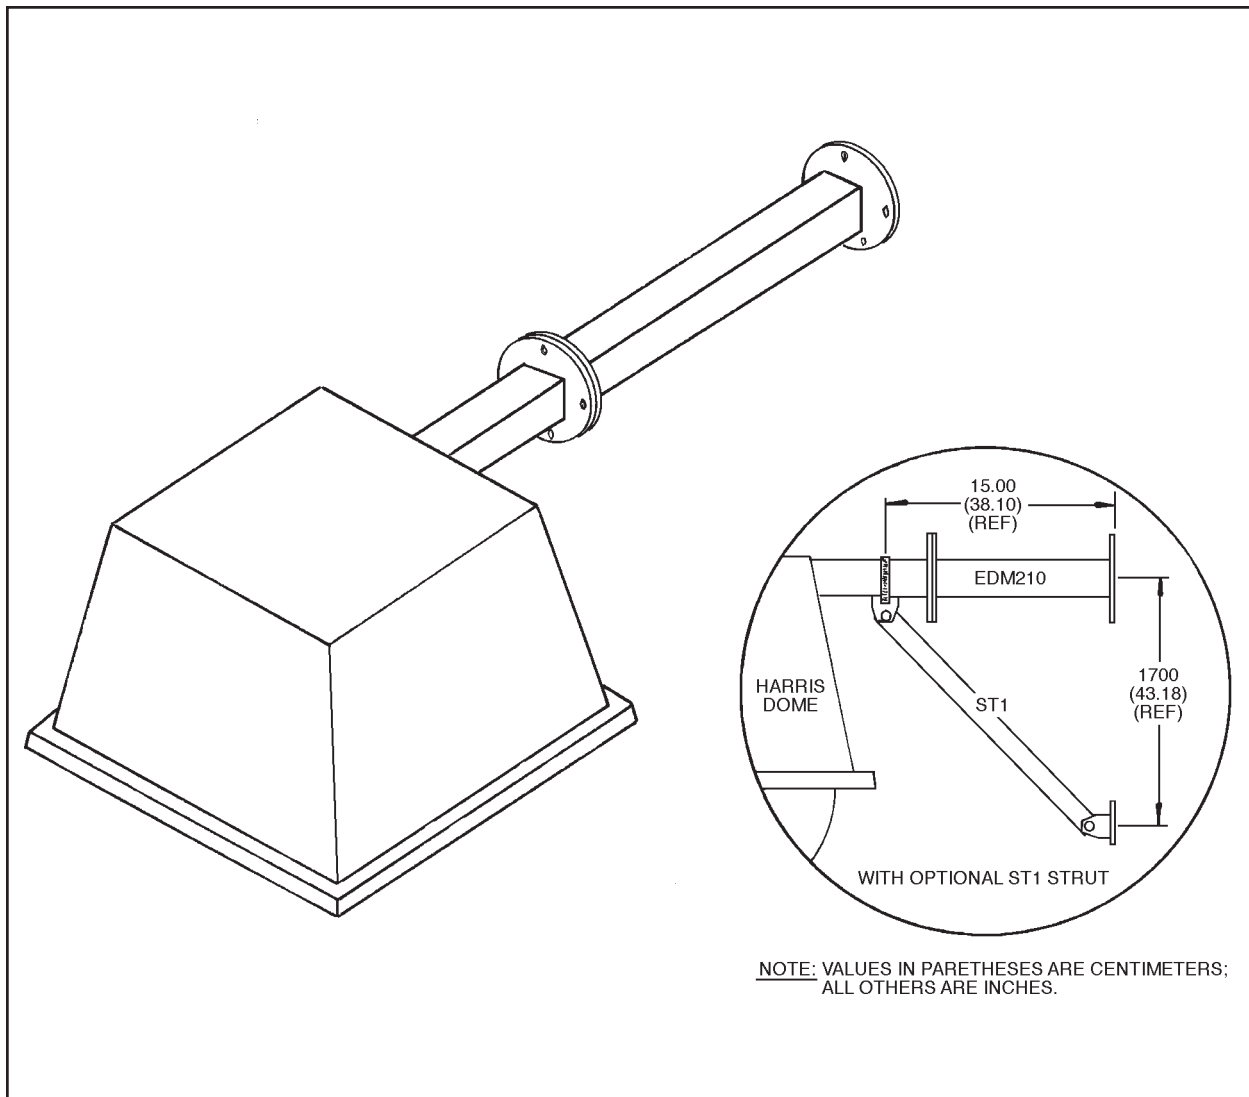

Figure 12. EDM210 Mounting Extension Installation
1. Using the enclosure or the template supplied (see Figure 12), mark the location of the four (4) mounting holes. If the control and power cables are to pass through the mounting surface, mark the large center hole as well.
2. Drill four (4) mounting holes according to the fasteners being used (minimum 5/16-inch diameter, not supplied).
To attach the enclosure to a vertical surface and incorporate the EDM210, perform the following steps (see Figure 12):
These mounts can be used in conjunction with the EDM210 mount extension and the ST1 strut. (See Figure 12.)